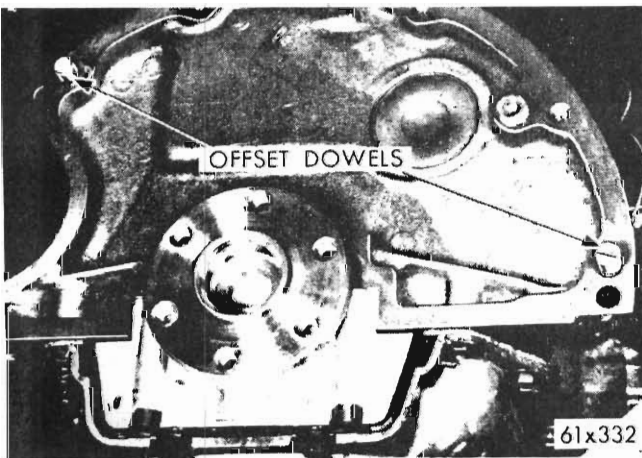

Fig. 3 - Offset dowel installation
(1) After determining the amount and direction of transmission case bore runout, select a pair of offset dowels with offset nearest to half the amount of runout.
(2) Drive old dowels from engine block flange and install the selected offset dowels with slots parallel and offset in the direction of runout. The upper dowel must be installed with the slotted end into block flange (toward the front of engine). Install lower dowel with slotted end toward rear, as shown in Fig. 3. Both dowels must be installed up the shoulder of offset.